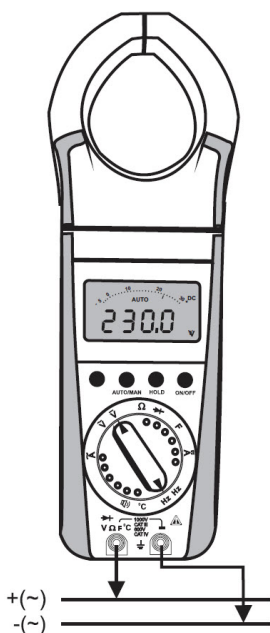

Fig. 1 Voltage measurement on electrical systems up to 1000 V
According to the voltage to be measured, set the function selector switch (6) to  $V\sim$  or  $V\text{---}$ . Connect the test leads as shown in figure 1. The " $\perp$ " socket should be connected to the lowest potential ground available.
**NOTE:** The 30 mV  $\text{---}$  and 300 mV  $\text{---}$  measuring ranges can only be selected with the AUTO/MAN pushbutton (4). On the 1000 V range, an intermittent sound signal warns when the measured value exceeds the upper range limit.
- Set the function selector switch (6) to V~ or V-
- Connections are made as shown in figure 1. Briefly press the yellow multifunction pushbutton (5) twice. The meter switches to duty cycle measurement. The duty cycle that is the percentage pulse duration of a signal is displayed on the LCD in %.